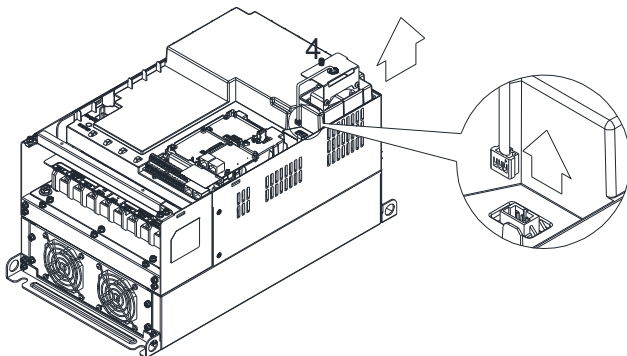

Figure 3
- Loosen screw 4 (figure 3) and disconnect fan power and pull out the fan. (As shown in the enlarged picture 3)